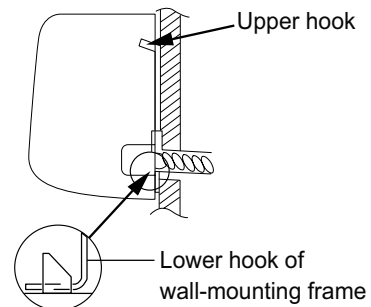

Fig. 17
- (5) Check if the indoor unit is installed firmly and close to the wall. (As shown in Fig. 17)